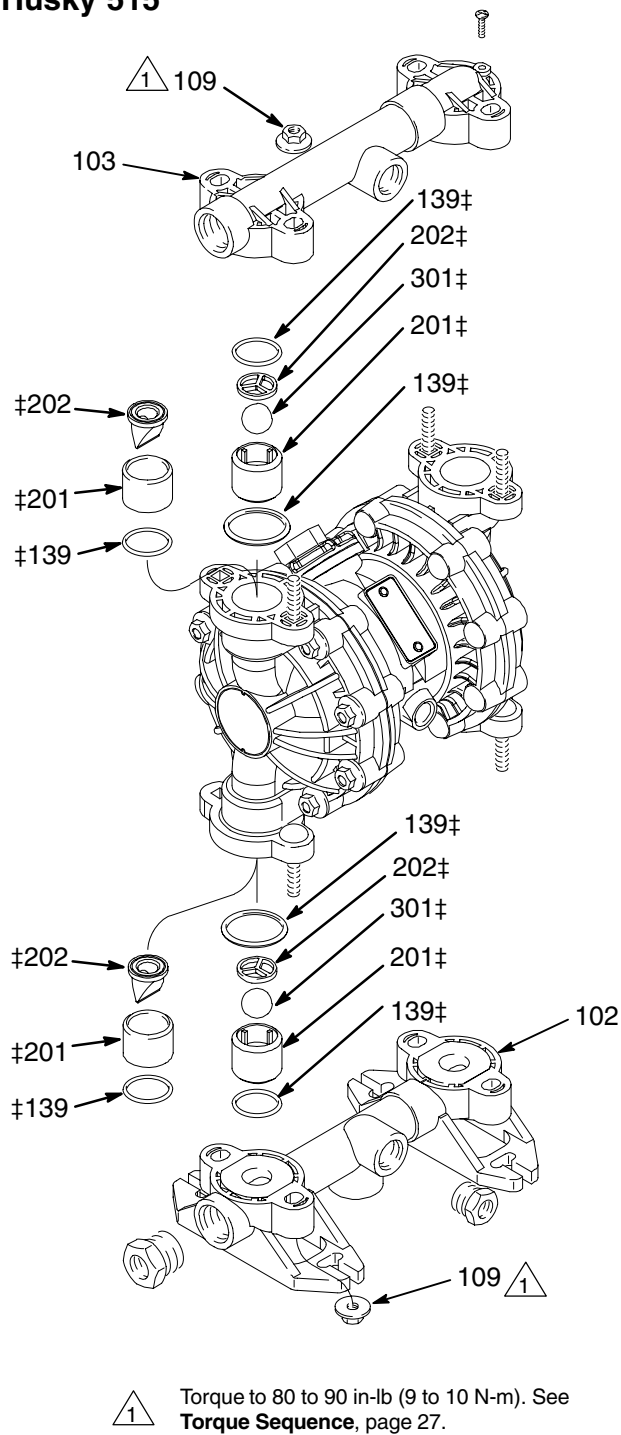
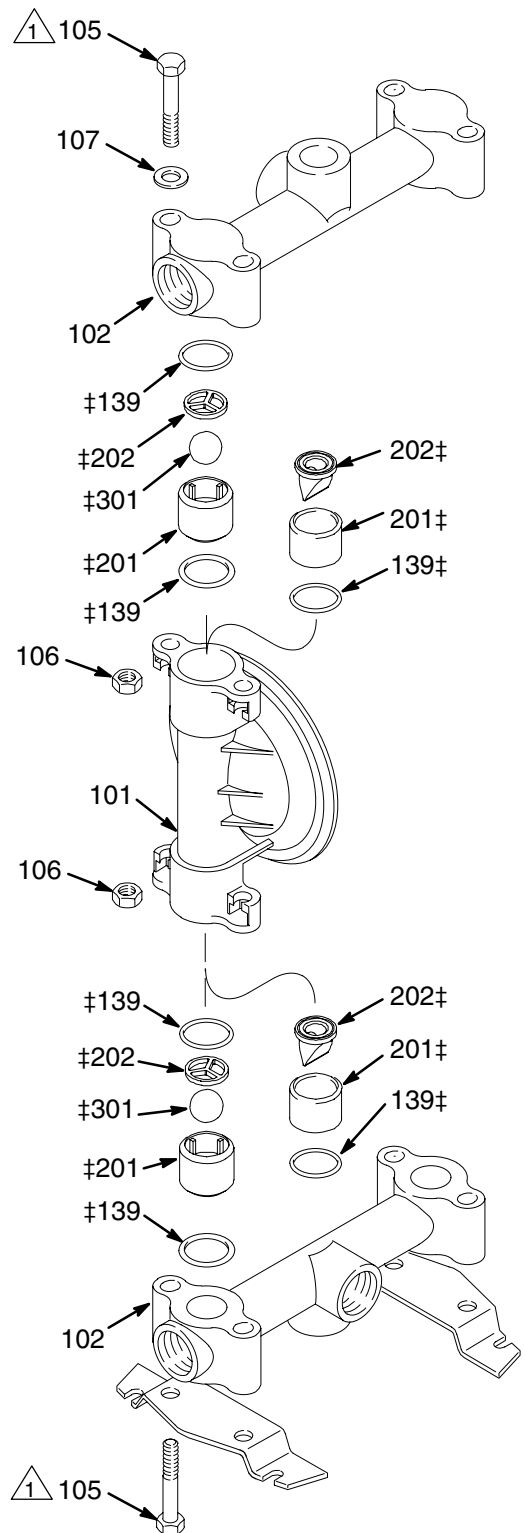

Fig. 7
Fig. 8
NOTE: Fluid Section Repair Kit D05XXX is available. See page 21 to order the correct kit for your pump. Parts included in the kit are marked with a double dagger (‡) in Fig. 7 and Fig. 8 and in the Parts Drawings and Lists. General purpose grease 111920 and Adhesive 113500 are supplied in the kit.
3. Remove all parts shown with a dagger (‡) in Fig. 7 and Fig. 8.
NOTE: Make sure all the check valve parts stay in place. See Fig. 7 on page 15.
6. Put grease on the diaphragm shaft (15), and carefully (do not damage the shaft u-cups) run the diaphragm shaft (15) through the center housing (11) bore.
7. Repeat step 5 for the other end of the diaphragm shaft (15), and torque the fluid-side diaphragm plates (105) to 80 to 90 in-lb (9 to 10 N-m) at 100 rpm maximum.
8. Install the muffler (3).
9. Make sure all the check valve parts are in place. See Fig. 7 on page 15.
10. Reinstall the fluid covers (101) and manifolds (102 and 103), and torque the fluid cover and manifold nuts (109) to 80 to 90 in-lb (9 to 10 N-m). See **Torque Sequence**, page 27.
NOTE: Make sure all the check valve parts stay in place. See Fig. 8 on page 15.
10. Position the fluid covers (101), install the vee clamps (109) around the fluid and air covers, install the grounding strip on the vee clamps, and torque the vee clamp nuts to 80 to 90 in-lb (9 to 10 N-m). See **Torque Sequence**, page 27.
11. Make sure all the check valve parts are in place. See Fig. 8 on page 15.
12. Install the manifolds (102), and torque the manifold bolts (105) to 80 to 90 in-lb (9 to 10 N-m). See **Torque Sequence**, page 27.